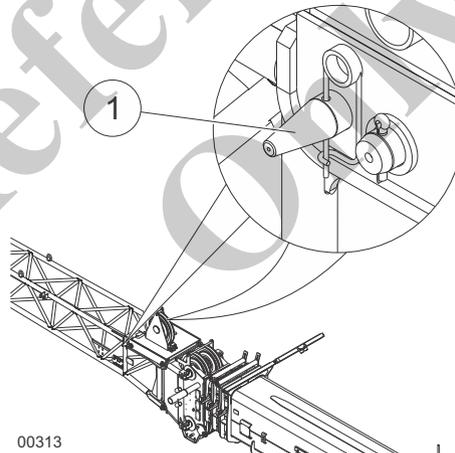

Fig. 156 Bolting the fly boom in the 0° position
- 8 Insert and secure both bolts (1) in Fig. 156 on the fly boom at the positions shown.